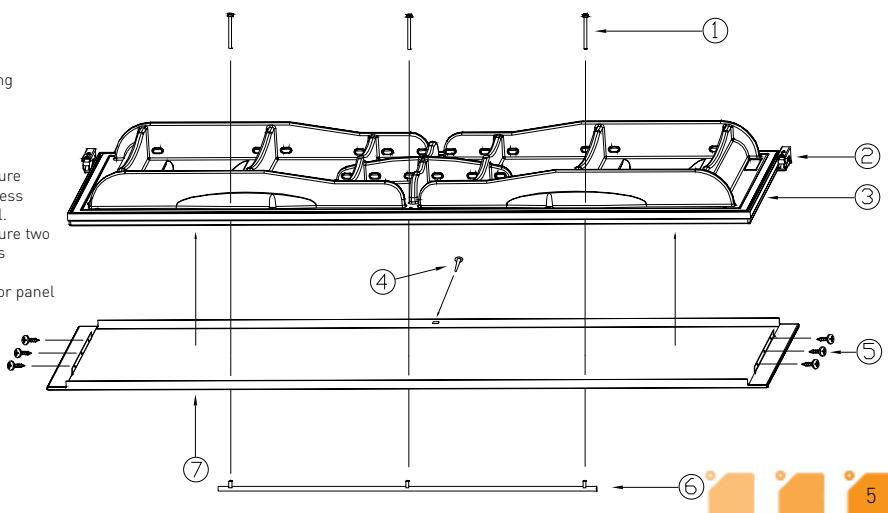

Fig. 3
The thermostat dial is located in the top right hand corner of the inside back wall – see fig. 3 item c. To increase the temperature (warmer) turn thermostat dial anticlockwise. To decrease the temperature (colder) turn thermostat dial clockwise.
2. Fitting full-cover stainless steel elements for freestanding corner fridges (see figure 3)